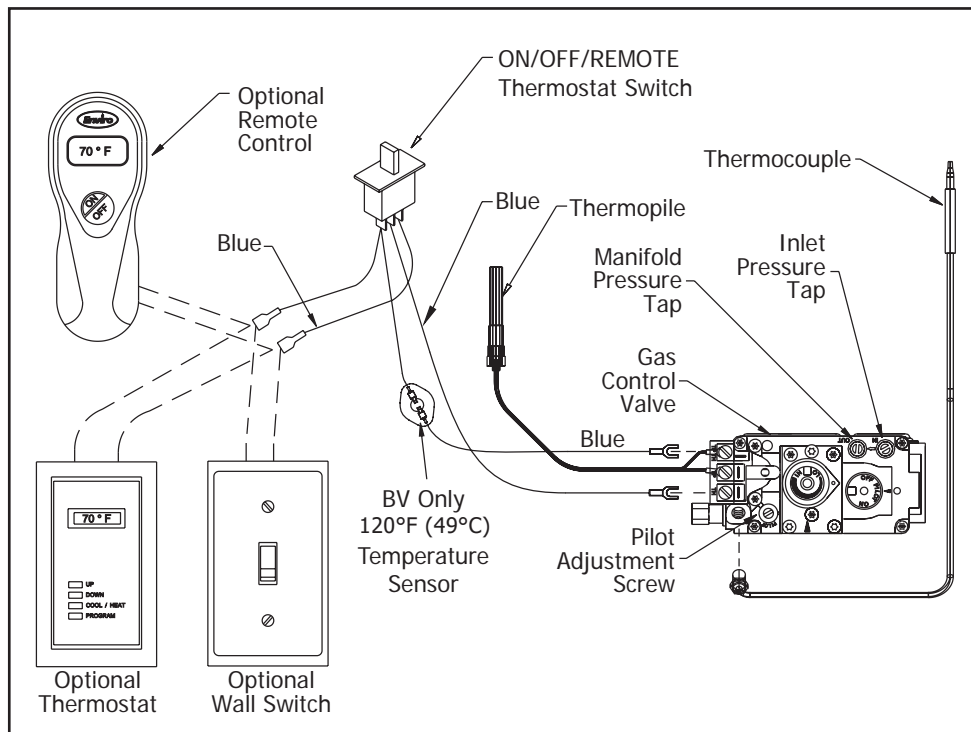

Figure 33: Accessory Wiring
The Q3 comes with an on/off switch mounted to the control panel. If you would like to install a wall mounted switch or thermostat then use the diagram to assist you in wiring the accessory into the unit. Disconnect the connection behind the switch in the control panel as tap into the (2) terminals as shown in Figure 33.